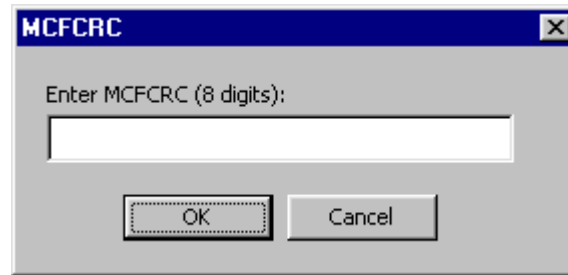

Figure 3-29
4. The **MCFCRC** window is displayed (figure 3-29).